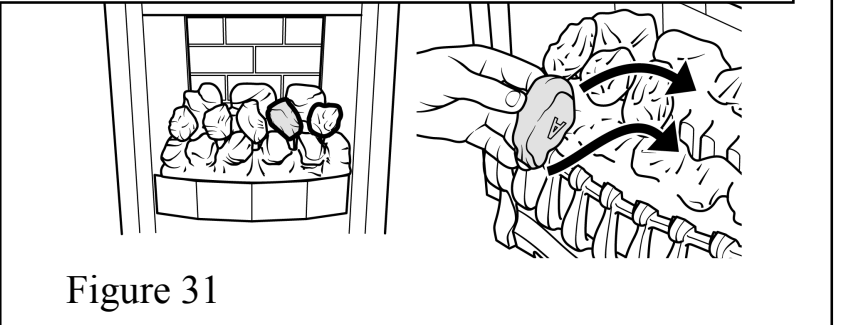

Figure 31
9. Place the remaining type "A" coal between the front and rear base coals. The letter "A" should be upside down with its rear face between the right and centre coals of the rear base coal. Angle the coal so that the gap between it and the type "B" coal to its right is appreciably larger than the gap between it and the type "A" coal to its left but do not have it touching the type "A" coal. This will give the best flame effect. See figure 31.